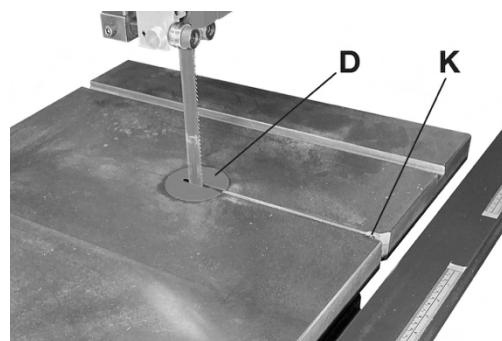

Figure 5-7
2. Pull table pin (K, Figure 5-7) out of its slot, and remove table insert (D).